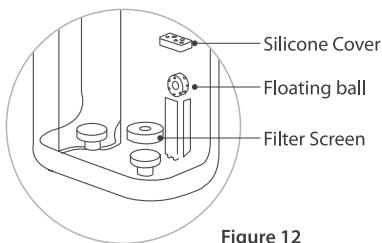

Figure 12
- (1) Pull out the silicone cover of the floating ball and then take out the floating ball. (**Figure 12**)
- (2) Pull out the filter screen in the same direction, as shown in the figure. (**Figure 12**)